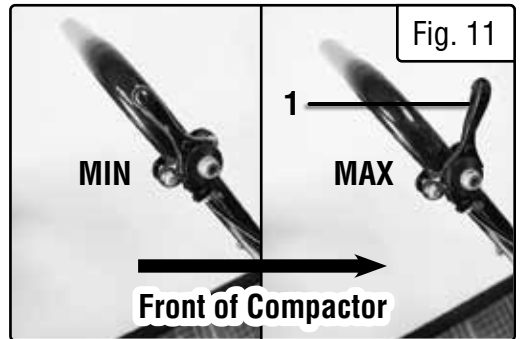

Fig. 11
6. Move throttle lever (Fig. 11 - 1) to “MIN” position.